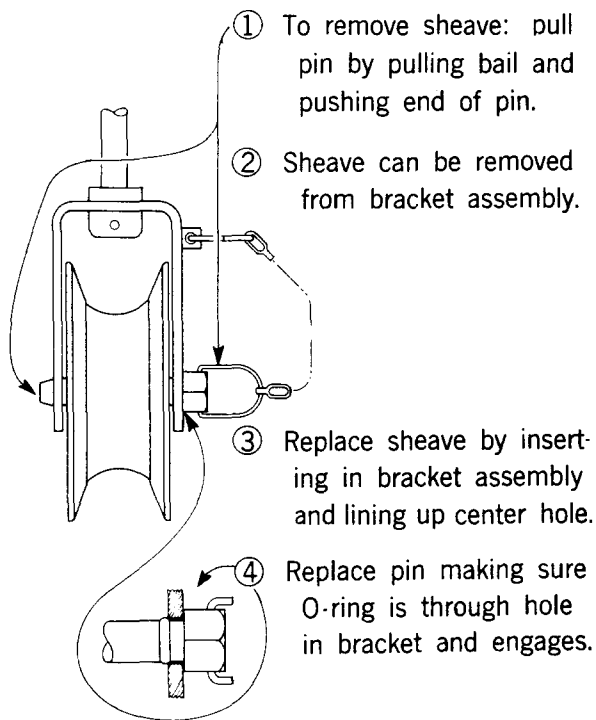
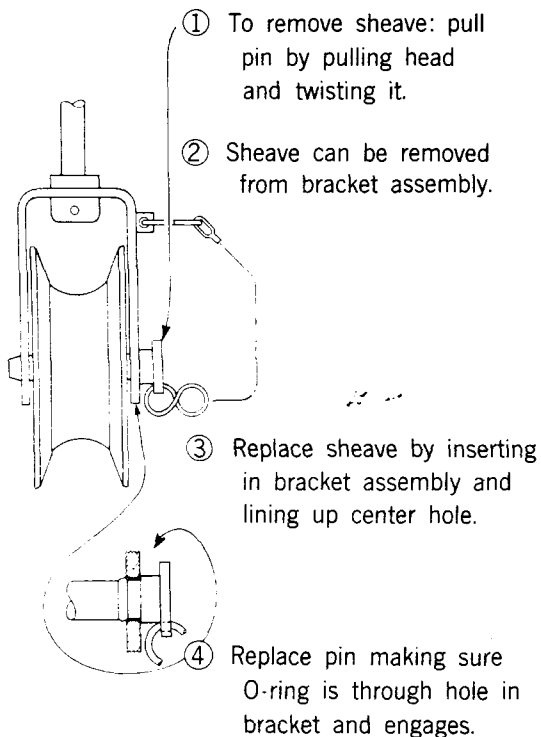

Fig. 3
Fig. 4
2.03 Fig. 3 and Fig. 4 show how the sheave can be removed from the bracket on either model of the block.